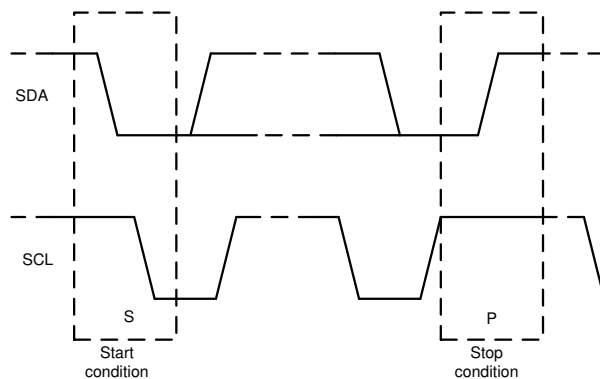

Figure 7-21. Start and Stop Conditions
1. The controller initiates data transfer by generating a start condition. The start condition is when a high-to-low transition occurs on the SDA line while SCL is high, as shown in Figure 7-21. All I²C-compatible devices recognize a start condition.
4. To signal the end of the data transfer, the controller generates a stop condition by pulling the SDA line from low-to-high while the SCL line is high, as shown in Figure 7-21. This action releases the bus and stops the communication link with the addressed target. All I²C-compatible devices recognize the stop condition. Upon receipt of a stop condition, the bus is released, and all target devices then wait for a start condition followed by a matching address.